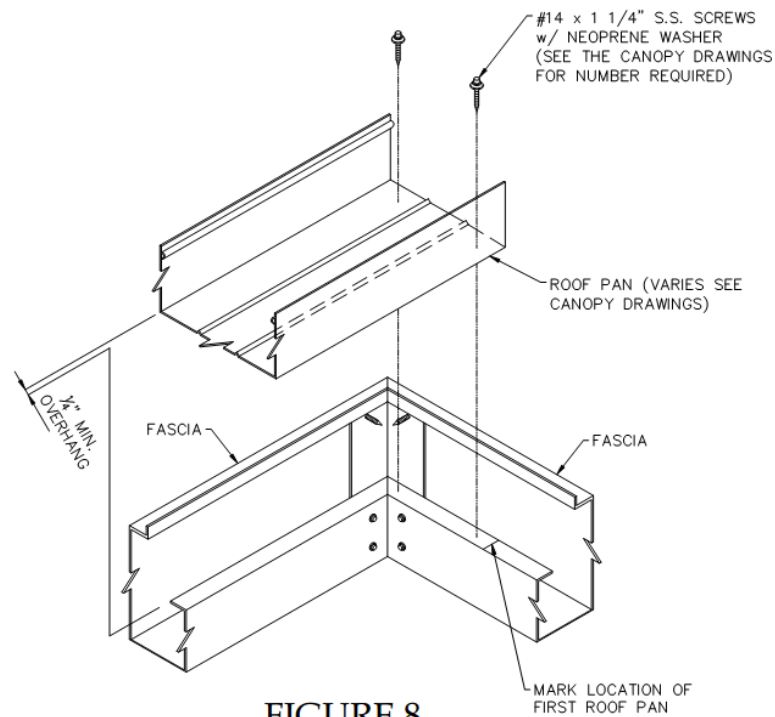

FIGURE 8
- A. Layout a starting point for the first pan to ensure that the support struts will fall inside the pans. This will vary depending on the style roof pan that is being used. Attach the first pan with SS screws with neoprene washers (Figure 8) to the fascia lip. See the canopy drawings for the size and number of screws to use.